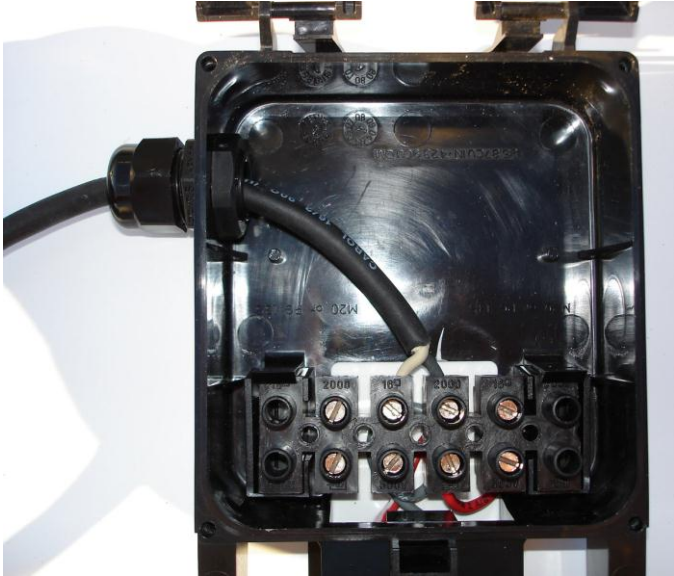

Figure 34: Secure Terminal Block and Tighten Strain Relief
- 4. With the wires tightened, secure the terminal block in its retaining clips, and tighten the strain relief connections to the power cable as shown in Figure 34.